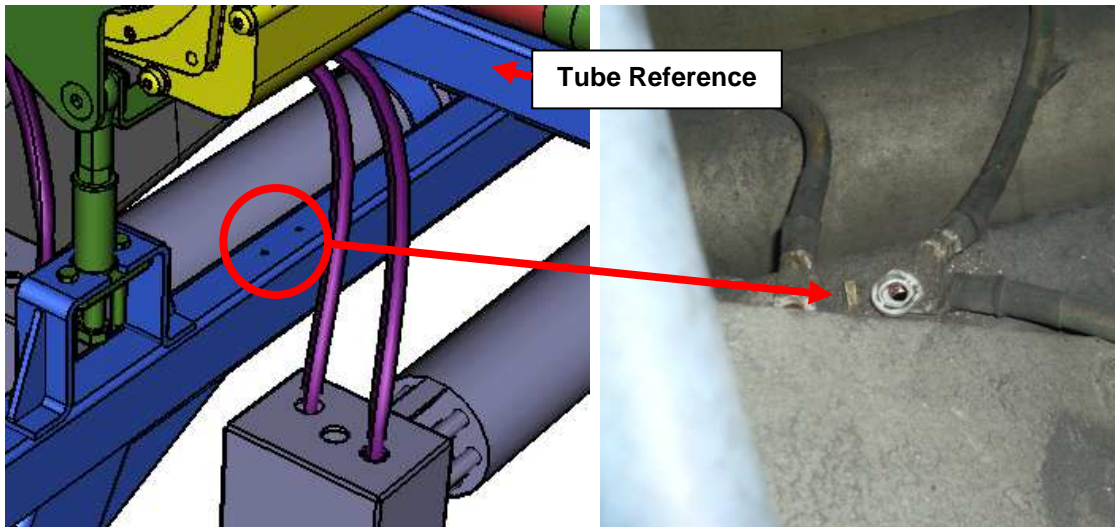

Figure 23: Ground Cables
- a. Remove the 3 ground cables located on the engine cradle, under the generator. See Fig 23.